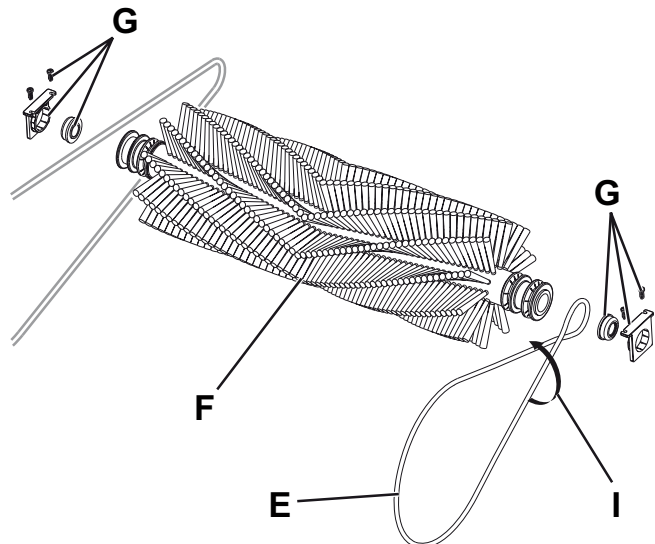

Figure 2
3. Remove the driving belt (E, Fig. 2) from its housing on the main broom (F).
4. Remove the main broom (F) and keep screws, supports and bearings (G) for reassembly.
- Install the short driving belt by crossing it as shown (I, Fig. 2).